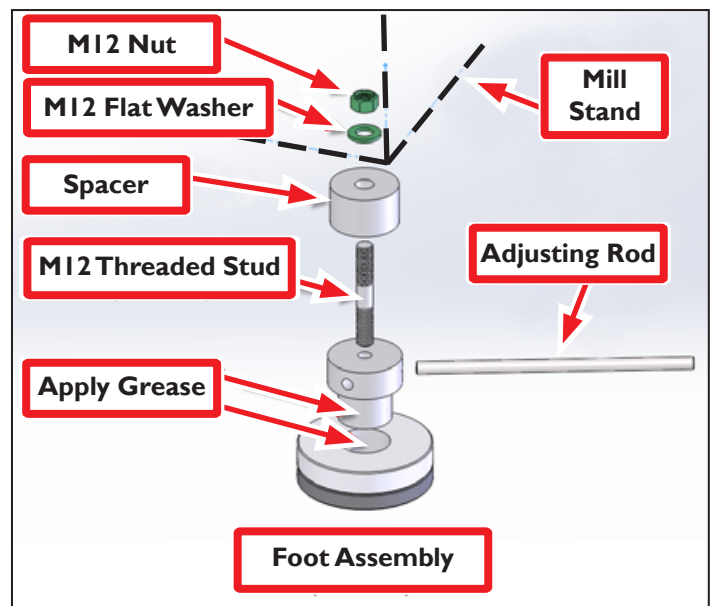

Figure 2
1. Apply multi-purpose grease to the locations indicated in **Figure 2** and join them together.
2. Insert *M12 Threaded Stud* into each foot and slide on *Spacers* (see **Figure 2**).
3. Attach feet to Stand using assembly shown in **Figure 2**.
5. If Stand is in its final location, level Stand using a carpenter's level. Adjustments to *Feet* are made using *Adjusting Rod* to increase or decrease height on each corner (see **Figure 2**).